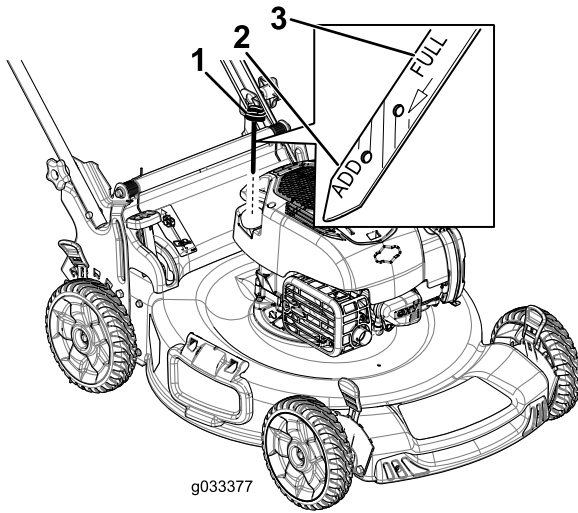

Figure 27
3. Remove the dipstick by rotating the cap counterclockwise and pulling it out (Figure 27).
10. Read the oil level on the dipstick (Figure 27).